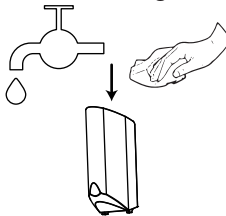

Fig. 12
6. Clean the dust container under water or with a damp cloth. Make sure to dry the dust container thoroughly before further use. (see Fig. 12).